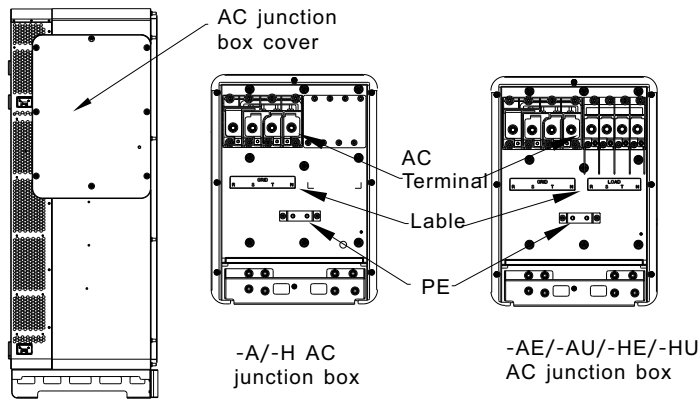

Fig 6.2 AC terminal wiring position and diagram
1. Open the cover of the AC junction box. The position of the cover is shown in Fig 6.2;
2. Connect a ground cable to the copper grounding bar in the AC junction box. Fig 6.2 shows the position of the grounding bar inside the AC junction box;
3. Connect the main power cables according to the label. Fig 6.2 shows the position of the label and the AC terminals.